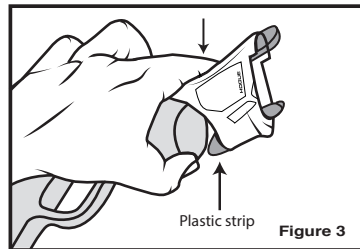

Figure 3
8. Hold the firearm as shown (Fig. 3). At the rearmost corner, insert the frame into the HandALL making sure the beavertail is positioned on the back strap of the firearm.